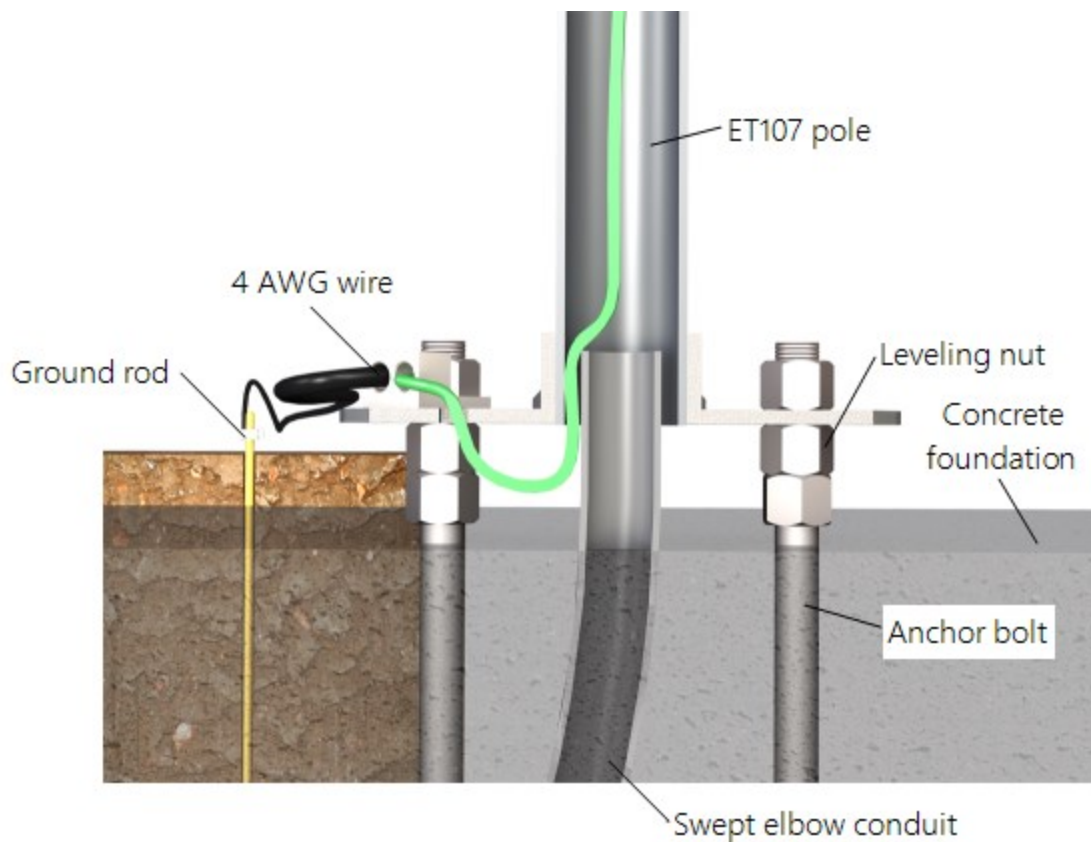
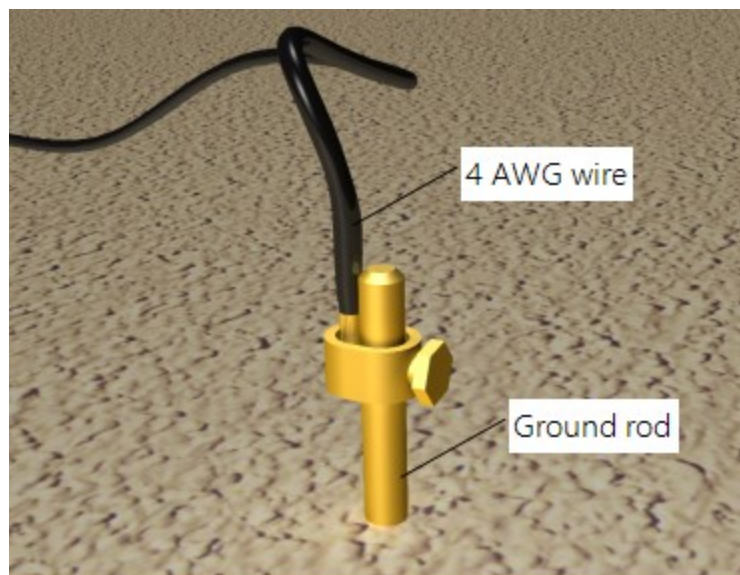

FIGURE 6-3. Transparent view shows raising and grounding the WS-PRO2 pole
FIGURE 6-4. Close-up of ground rod and 4 AWG cable
Use the following procedure to attach the pole to the base (FIGURE 6-3 (p. 15)).
Use the following procedure to ground the pole (FIGURE 6-3 (p. 15) and FIGURE 6-4 (p. 17)).
6. Tighten the set screw (FIGURE 6-4 (p. 17)).
7. Loosen the ground rod clamp. Insert the 4 AWG wire. Tighten the clamp (FIGURE 6-4 (p. 17)).